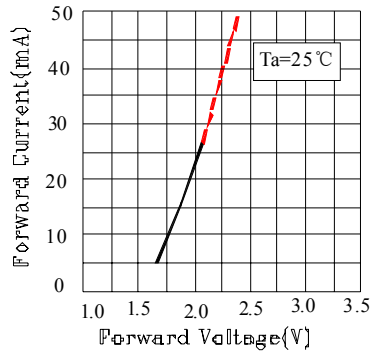

Fig. 1 Forward Current vs. Forward Voltage
**● Typical Electro-Optical Characteristics Curves****Fig.1 Relative Intensity vs. Wavelength**